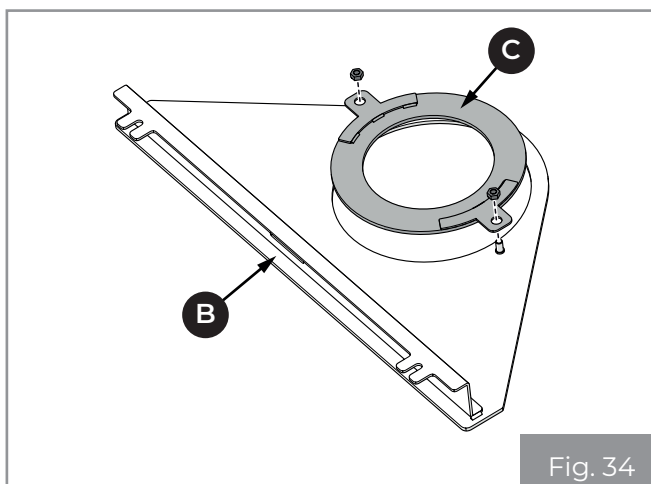

Fig. 34
- Rotate the surface **(B)** and remove the support **(C)** (Fig. 34).